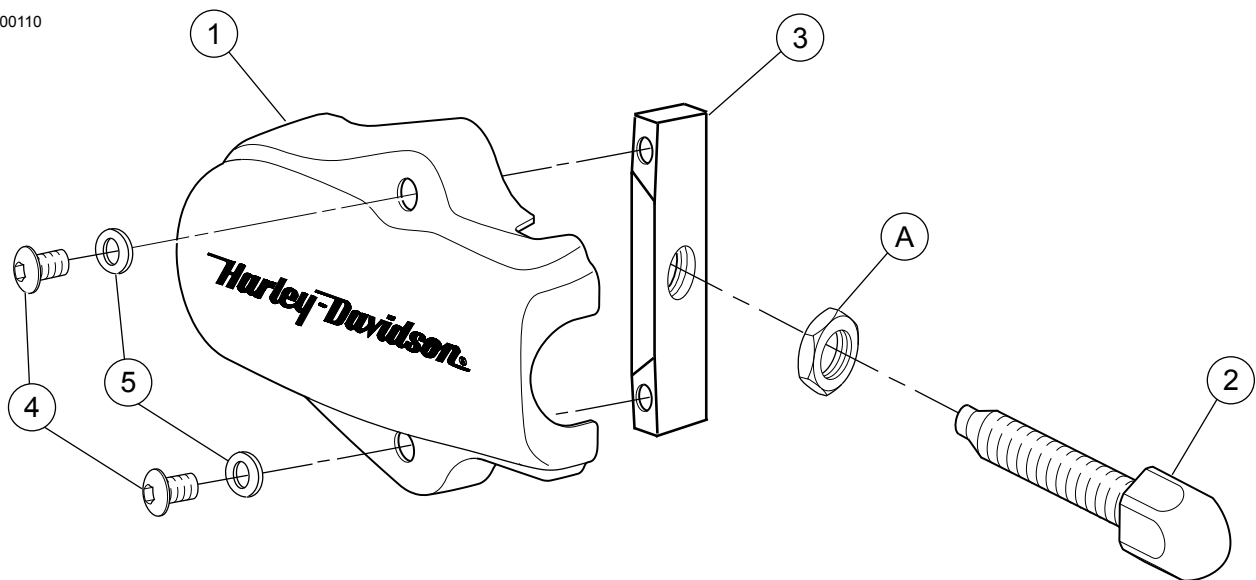

Figure 3. Service Parts: Softail Rear Axle Nut Cover Kit (Bullet Style)
See Figure 3 and Table 1 for a list of kit contents.
11. See Figure 3. The axle nut covers are side-specific. Select an axle nut cover (1) from the kit. Place the cover over the mounting bracket (3) with the axle adjuster screw cutout at the front as shown.
12. Line up the mounting holes, and install the cover with two washers (5) and two screws (4) from the kit. Fasten securely. Repeat for the opposite side.
See Figure 3 and Table 1.